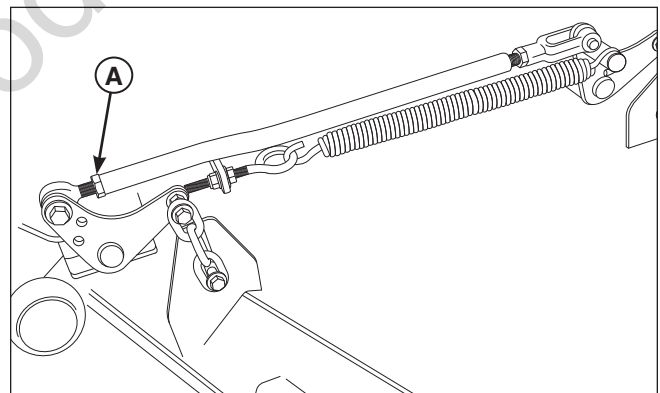

Figure 37. Adjust the Lift Rod Lengths
6. Refer to Figure 37. To adjust the lift rod, loosen the jam nut on the front ball joint then remove the 1/2" hardware fastening the ball joint to the lift pivot arm. Turn the ball joint CLOCKWISE to shorten the distance between the rod pivots or COUNTER-CLOCKWISE to lengthen the distance between the rod pivots. Reinstall the ball joint on the lift pivot arm and secure with the 1/2" hardware previously removed. Tighten the jam nut against the lift rod.